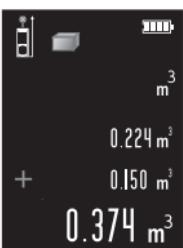

Fig. 6
Step3 – short press button  device calculates the sum and shows in the major display area as Fig. 6